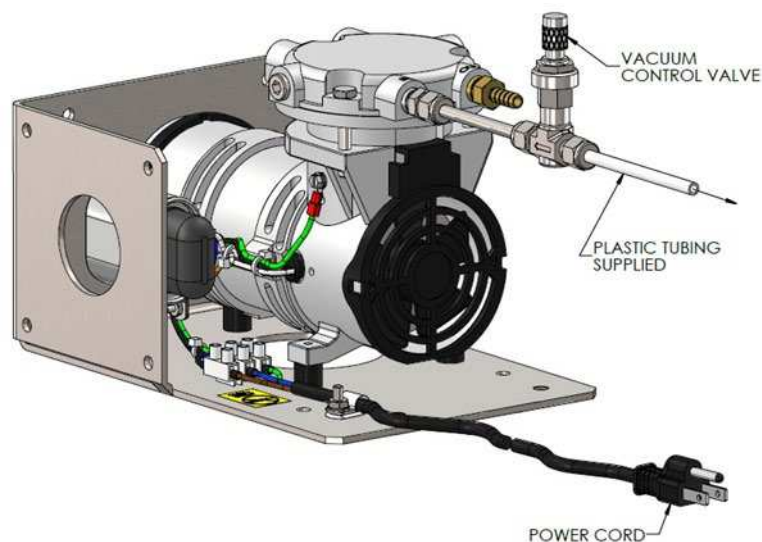

Figure 13: Vacuum Pump Assembly
11. If analyzer has vacuum pump, connect a line from the moisture sample outlet to the pump vacuum control valve (see Figure 13). For systems that do not have the HSS, use the provided polyethylene line. For systems with the HSS, use ¼ in stainless-steel line.